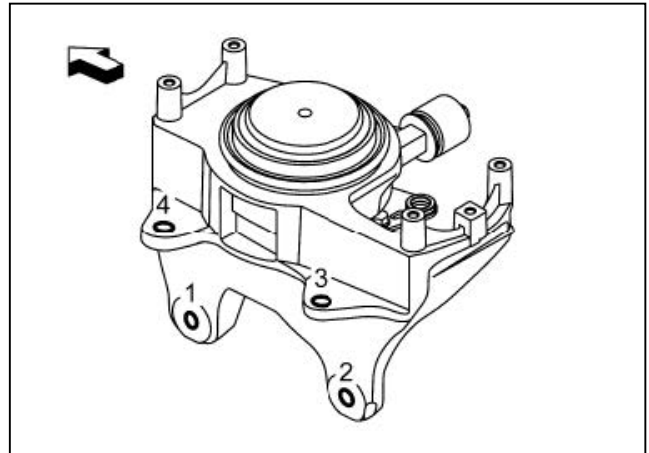

Figure 2
18. Install and tighten the LH side engine mounting insulator bolts in the sequence shown in Figure 2.